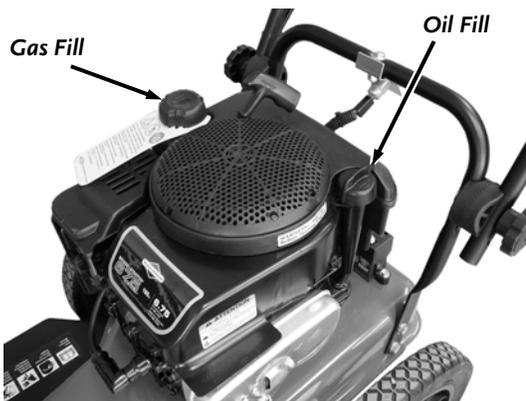

Figure 11
1. Place the machine on a level surface and initially add 1/2 of the SAE 30 High Detergent oil (recommended by the Engine Manufacturer) into the Oil Fill (**Figure 11**) and wait one (1) minute for the oil to settle
1. Check the oil level every time you use the DR TRIMMER/MOWER (**Figure 11 on page 10**).
2. Check the gas level (**Figure 11 on page 10**).